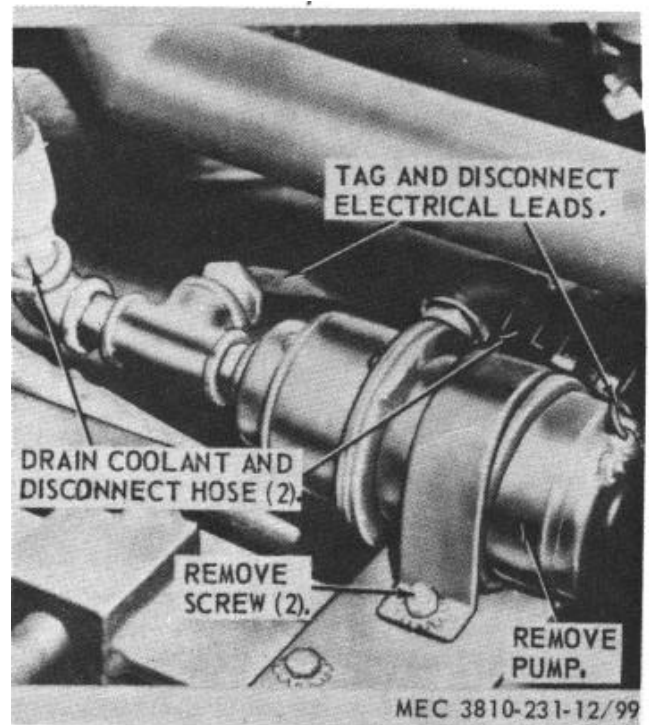

Figure 99. Engine coolant heater pump, removal and installation.
- a. *Removal.* Refer to figure 99 and remove engine coolant heater pump.
- (1) Clean all parts in an approved cleaning solvent and dry thoroughly
- (2) Inspect heater pump and mounting hardware for distortion, wear, or other damage. Replace all damaged or defective parts.
c. *Installation.* Refer to figure 99 and install engine coolant heater pump.